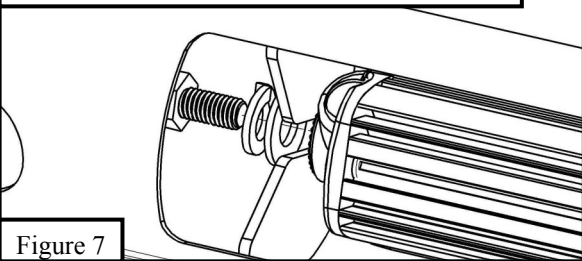

Figure 7
8. **For part number 32-2405L / 32-2455L:** Refer to **Page 5** for wiring instructions. Loosen M8 hardware to adjust the LED light in bull bar or to remove it in order to replace it. See **Figure 7** for location of M8 hardware.